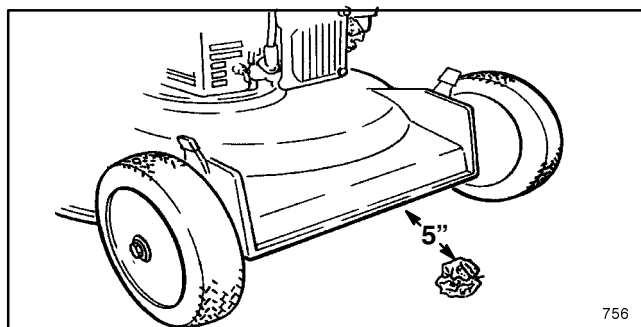

Figure 6
- 4.** Take a half sheet of newspaper and crumple it into a ball small enough to go under the deck (approx. three inches in diameter) (Fig. 6).
- 5.** Place ball of newspaper five inches in front of mower (Fig. 6).